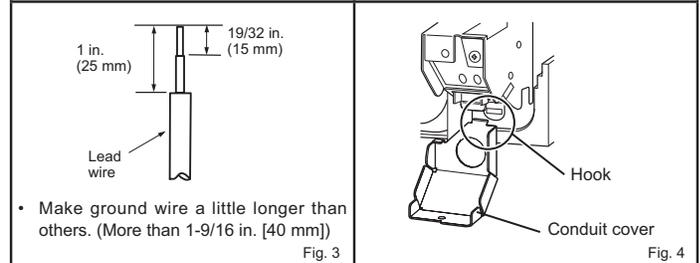

Fig. 3
- 5) Process the end of ground wire (Fig. 3). Connect it to the ground terminal of electrical parts box.
- 6) Process the end of indoor/outdoor unit connecting wire (A) (Fig. 3). Fix it to terminal block. Be careful not to make mis-wiring. Fix the wire to the terminal block securely so that no part of its core is appeared, and no external force is conveyed to the connecting section of the terminal block.
- Put the drain cap into the section to which the drain hose is to be attached at the rear of the indoor unit. (Fig. 3)
- When connecting the drain hose to the hard vinyl chloride pipe, be sure to insert it securely into the pipe. (Fig. 3)
- 2) Completely remove all burrs from the cut cross section of pipe. (Fig. 3)